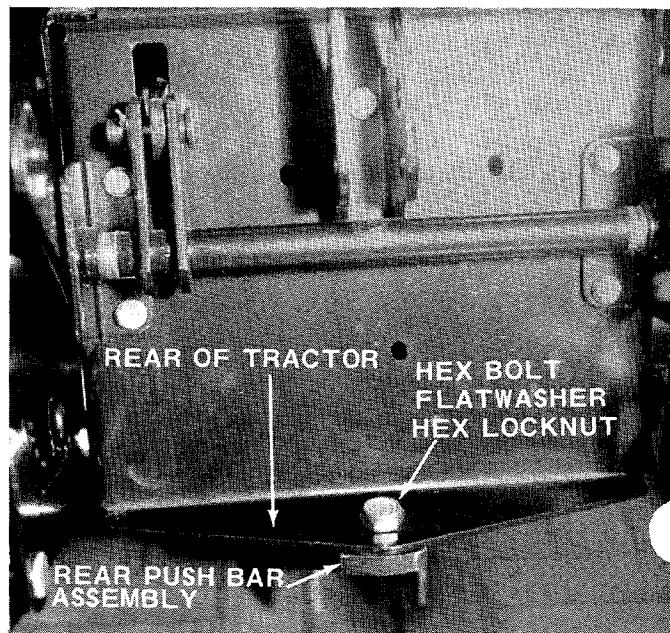

FIGURE 7
2. Raise the rear of push bar assembly up and secure to rear of tractor with hex bolt, flatwasher and hex lock nut. See figure 7.